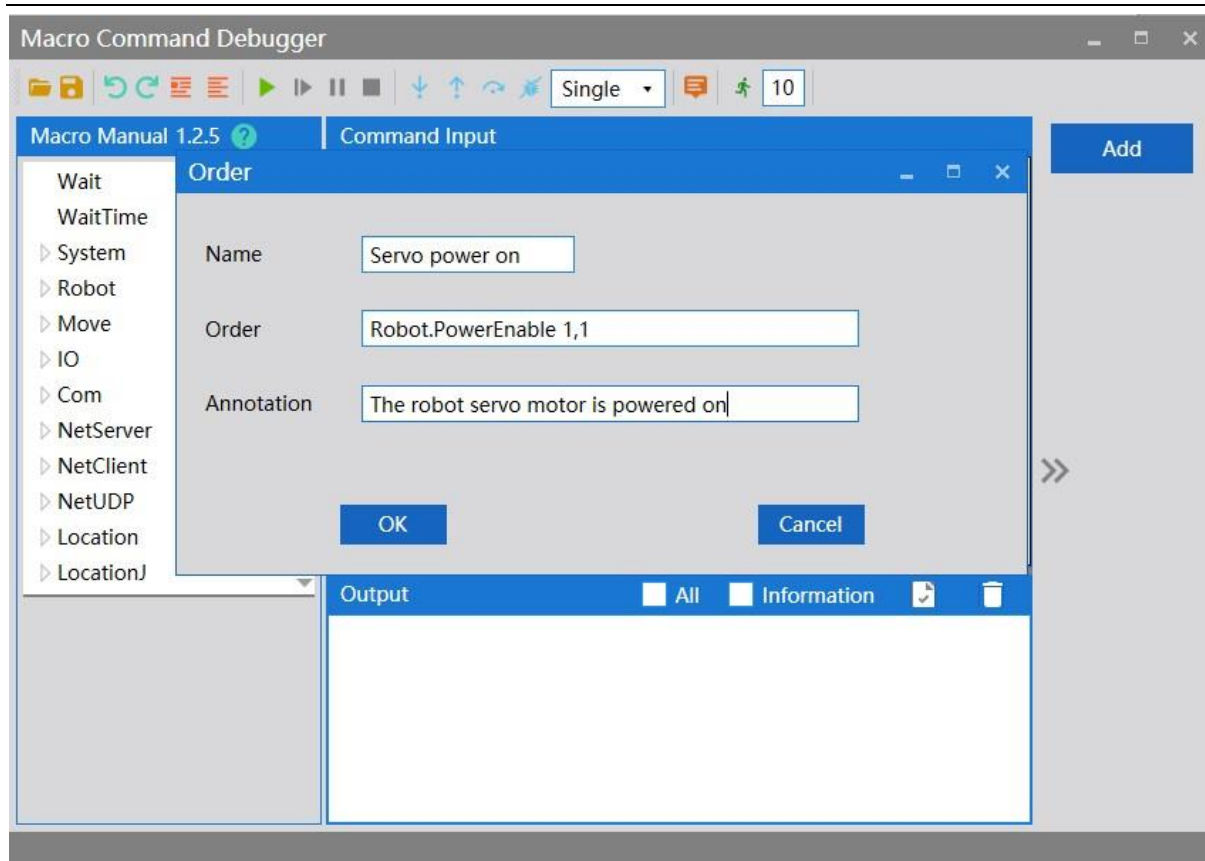

Figure 6-10 Customize the editing interface(ARM)
**Step 2** Click the < add > button on the right to open the operation instruction dialog box. Type the instruction name "servo power on", the operation instruction content "robot. Powerenable 1,1" and the comment "robot servo motor power on" in the input box of the interface to edit the required instructions, , as shown in Figure 6-10.